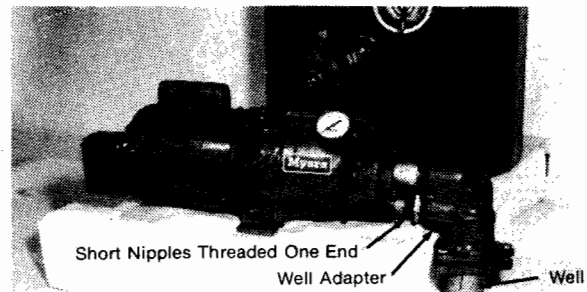

Figure 11
2. For close hook-up to well, steel pipe or rigid pipe nipple gives the simplest connection. (See Fig. 11).